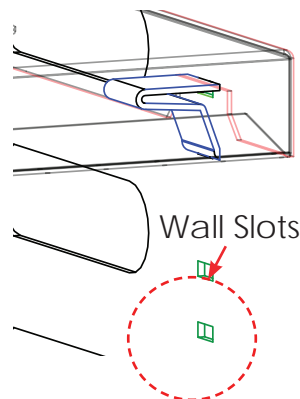
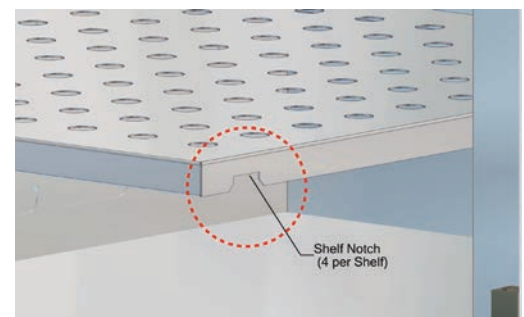

Fig. 18: Support Clip Fitted in Notch
Fig. 19: Shelf Notch
4. Set the 2 sets of rollers of the roller basket into the channel tracks on both sides and slide the shelf in (Fig. 18 - Fig. 19).